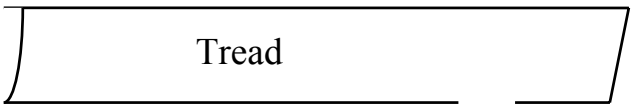

Fig.2
9. Fig.2 shows a part section through a tread of a staircase. Complete the drawing to include the riser to show how it is secured to the tread.